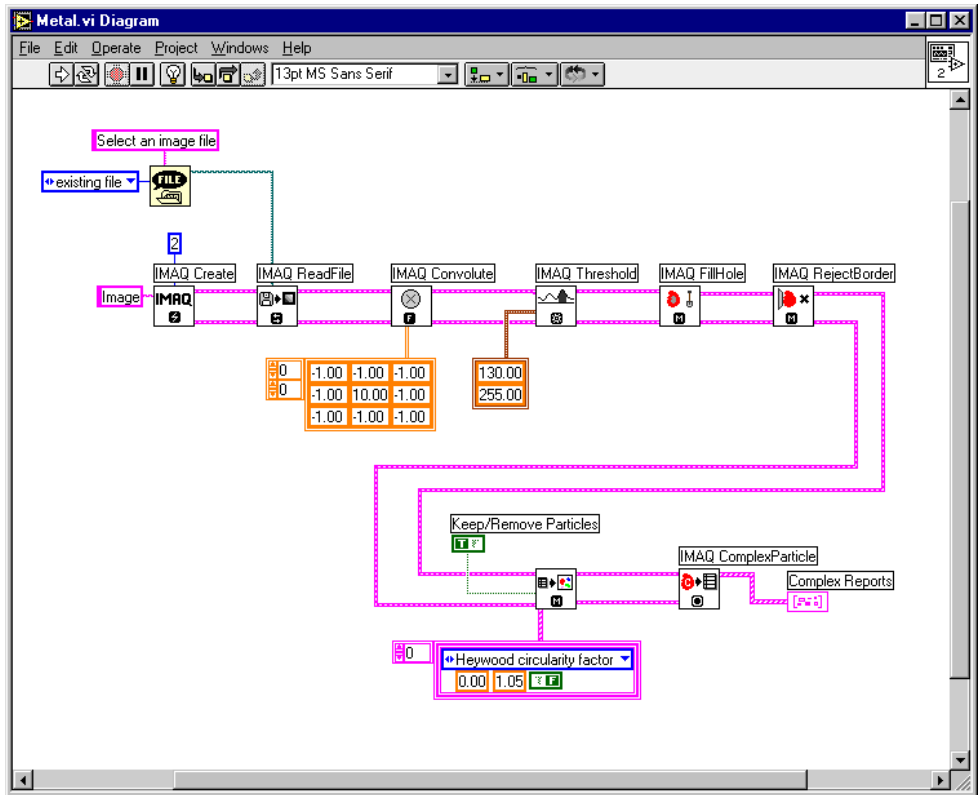

Figure 3-8. Blob Analysis Block Diagram
- Launch LabVIEW and use the step descriptions to build the blob analysis block diagram with IMAQ Vision VIs. The block diagram should look similar to Figure 3-8.